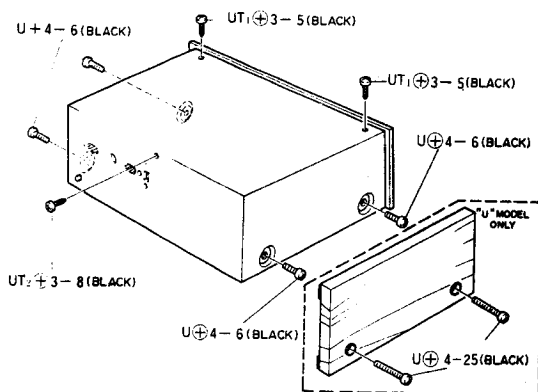

Fig. 1
- 1) Remove 7 screws. (Refer to Fig. 1)